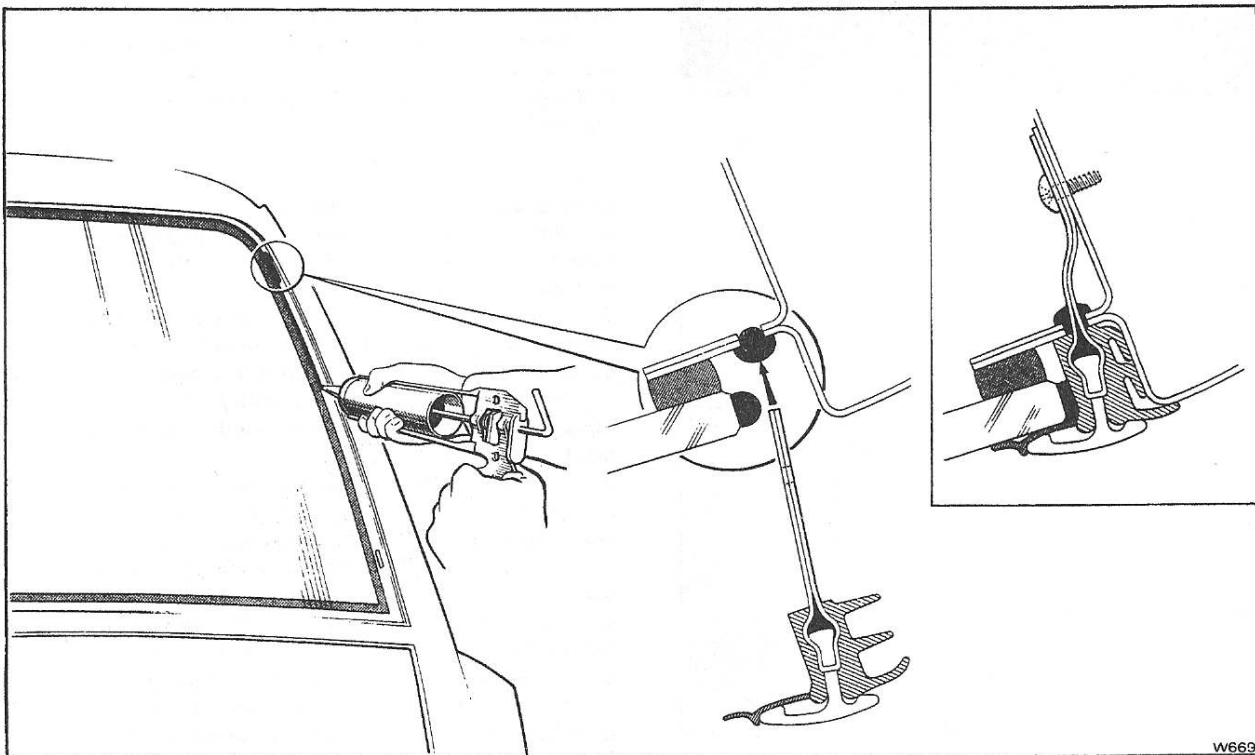

Fig. S148 Applying the sealant and fitting the windscreen retention plates to the 'A' posts (Camargue)
(0.250 in.) bead of Arbomast Autograde Sealant or Seelastik around the edge of the glass. Also, run the same bead of sealant along the retention plate slots in the windscreen aperture to a length of 76 mm. (3 in.), as shown in Figure S148.
26. Check that the assembly is seated evenly around the periphery of the glass then press it firmly into position. The outer lip of the moulded seal should seat evenly against the body panels, while the face seal should be firmly pressed against the windscreen (see Fig. S148 inset).
27. With the help of an assistant pressing firmly on the finisher/seal assembly on the outside of the windscreen, press the four retention plates onto the 'A' posts. Locate the holes and secure the plates into position with self-tapping screws (see Fig. S148, inset).